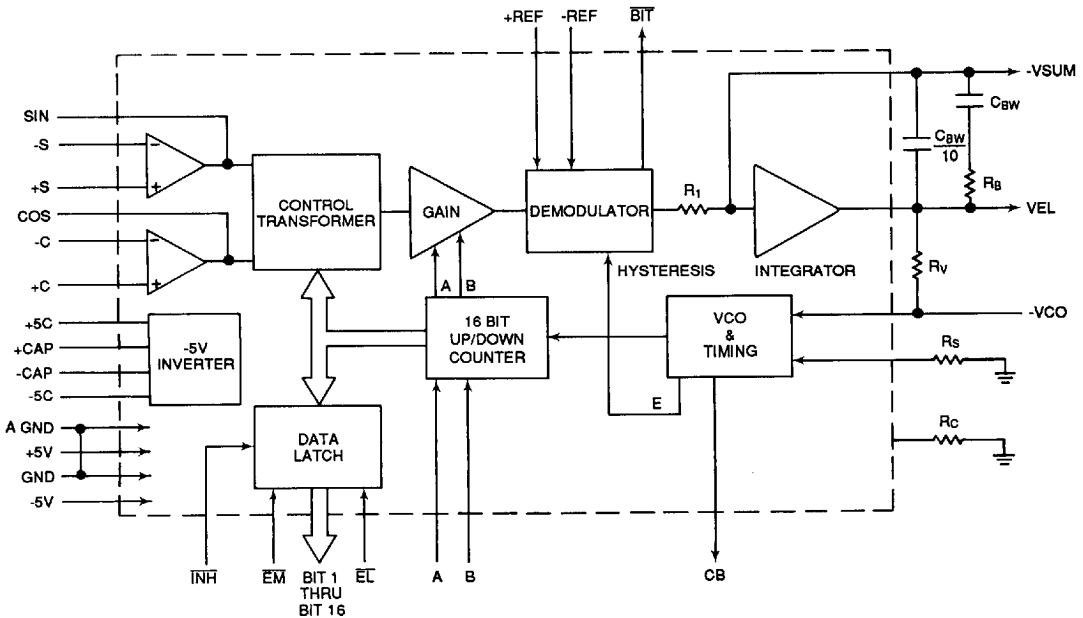

FIGURE 1. RDC-19220 SERIES BLOCK DIAGRAM
FIGURE 1 is the Functional Block Diagram of RDC-19220 Series. The converter operates with ± 5 Vdc power supplies. Analog signals are referenced to analog ground, which is at ground potential. The converter is made up of two main sections; a converter and a digital Interface. The converter front end consists of sine and cosine differential input amplifiers. These inputs are protected to ± 25 V with 2 k Ω resistors and diode clamps to the ± 5 Vdc supplies. These amplifiers feed the high accuracy Control Transformer (CT). Its other input is the 16-bit digital angle ϕ . Its output is an analog error angle, or difference angle, between the two inputs. The CT performs the ratiometric trigonometric computation of $\text{SIN}\theta\text{COS}\phi - \text{COS}\theta\text{SIN}\phi = \text{SIN}(\theta - \phi)$ using amplifiers, switches, logic, and capacitors in precision ratios. **Note:** The transfer function of the CT is normally trigonometric, but in LDVT-mode the transfer function is triangular (linear) and could thereby convert any linear transducer output.